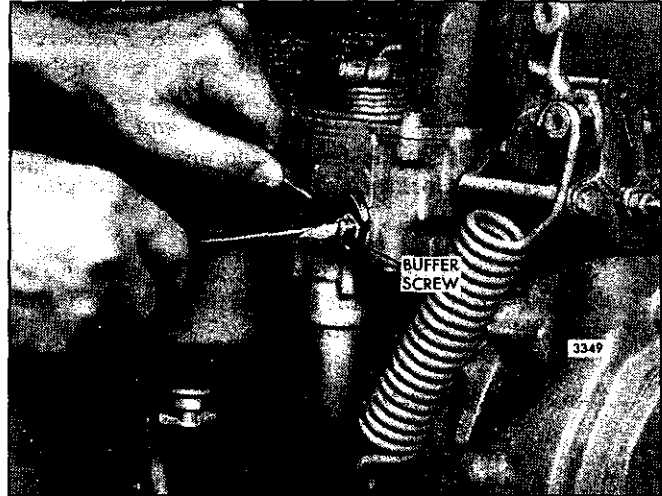

Fig. 7 - Adjusting Buffer Screw
1. With the engine running at normal operating temperature, turn the buffer screw in (Fig. 7) so that it contacts the differential lever as lightly as possible and still eliminates engine roll. *Do not increase the engine idle speed more than 15 rpm with the buffer screw.*